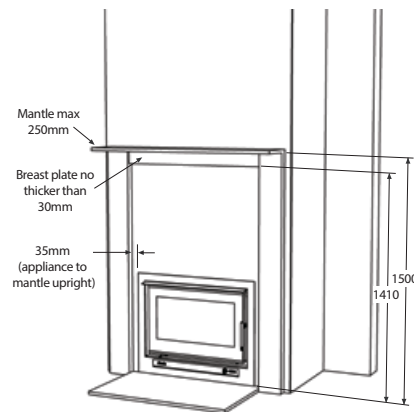

Figure 5
- Install the mantle if required as per mantle clearances in figure 5.